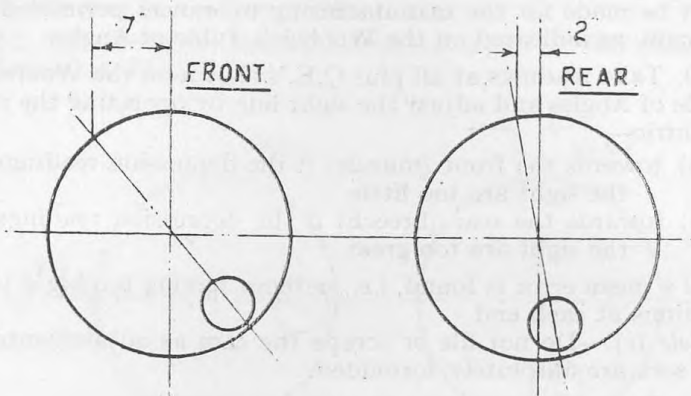

Fig. 3.
69. Set the sight carrier adjusting bushes in the positions indicated in **FIG. 3** or **4**, respectively.